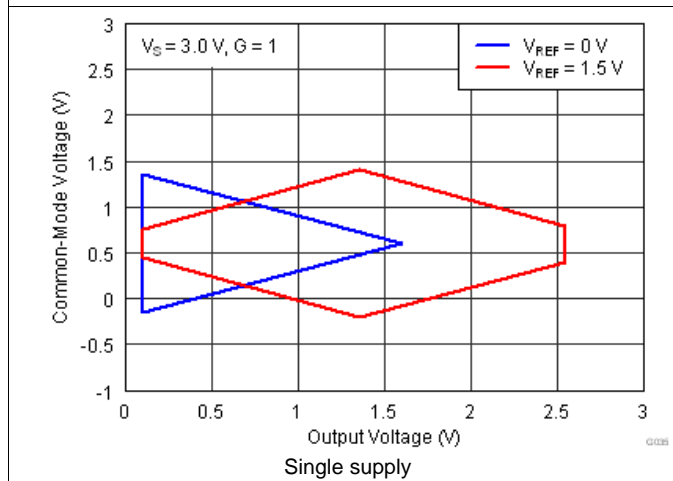
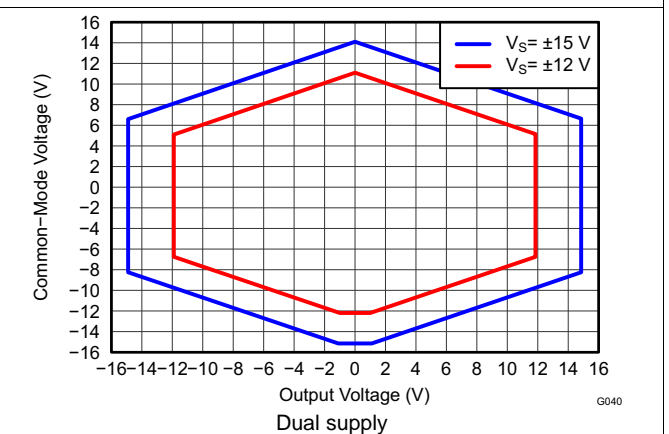

Figure 9. Input Common-Mode Voltage vs Output Voltage
Figure 16. Input Common-Mode Voltage vs Output Voltage
(1) Total offset, referred-to-input (RTI): $V_{\text{OS}} = (V_{\text{OSI}}) + (V_{\text{OSO}} / G)$.
(2) Input voltage range of the INA826 input stage. The input range depends on the common-mode voltage, differential voltage, gain, and reference voltage. See *Typical Characteristic* curves Figure 9 through Figure 16 and Figure 41 through Figure 44 for more information.